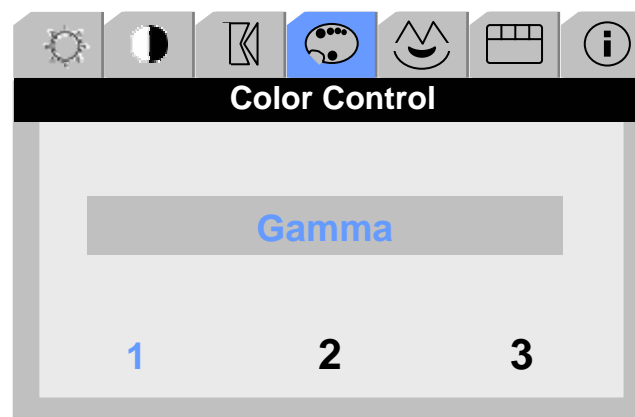

Figure 29: Gamma Adjustment
5. When the submenu choice appears, use the + or – button to select adjustment, see Figure 29.